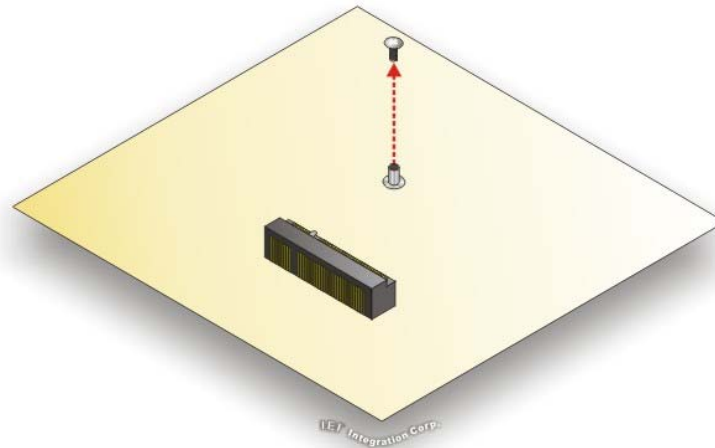

Figure 4-5: iRIS-1010 Module Installation
- Step 2: Remove the preinstalled retention screw** on the screw pillar of the iRIS module slot as shown in **Figure 4-5**.